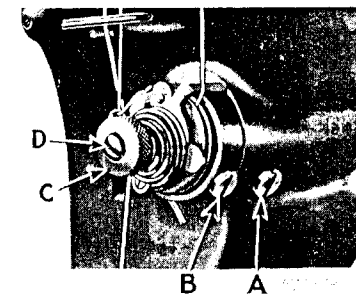

Fig. 21. Adjustment of the Thread Controller
The tension on the needle thread should only be regulated when the presser foot is down. Having lowered the presser foot, turn the thumb nut (C, Fig. 21) at the front of the tension discs over to the right to increase the tension. To decrease the tension, turn this thumb nut over to the left.
For more controller action on the thread, loosen the set screw (B, Fig. 21) and set the thread controller spring stop lower. For less action, set the thread controller spring stop higher, then securely tighten the set screw (B).
To increase the tension of the thread controller spring on the thread, loosen the tension stud set screw (A, Fig. 21) and turn the tension stud (D, Fig. 21) over to the left with a screwdriver. To decrease the tension, turn the tension stud (D) over to the right, then securely tighten the stud set screw (A).